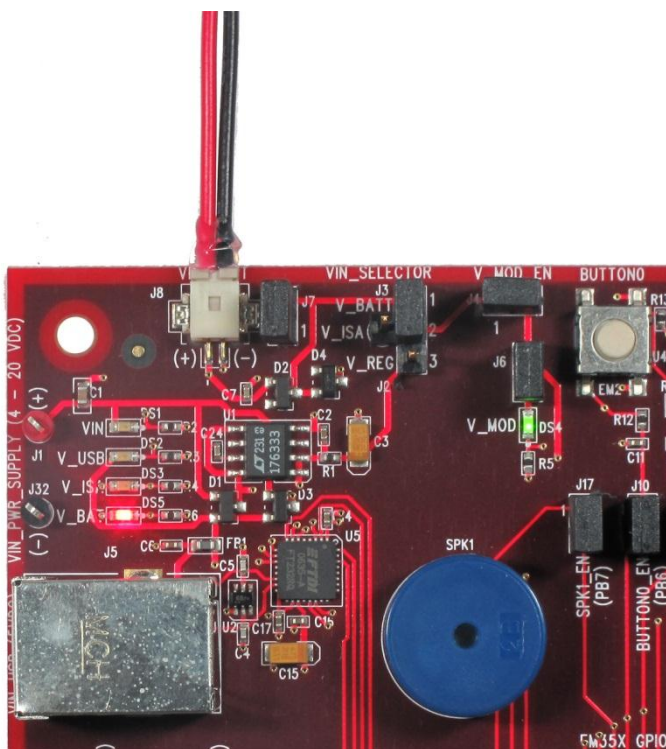

Figure 11. Breakout Board Power Supplied by Battery Connector
- **Breakout Board Power Supplied by Battery Connector (Figure 11):** Finally, the Breakout Board may also be powered via the battery connector, using the supplied battery packs and 2x AAA batteries. The power